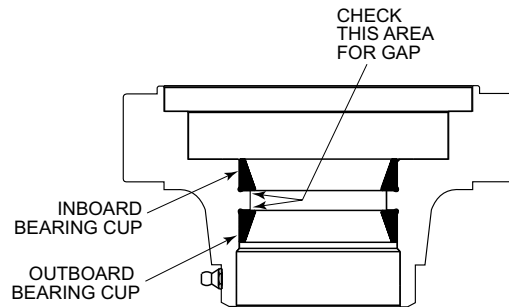
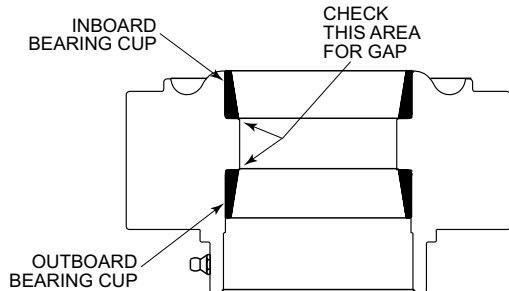

Figure 6.3.4a Installation of Bearing Cups in Input Housing
Figure 6.3.4b Installation of Bearing Cups in Output Housing
3. With a 0.001" or 0.040 mm feeler gage, make sure that there is no gap between the housing and the bearing cups to insure proper cup seating. Reference Figure 6.3.4a and Figure 6.3.4b.